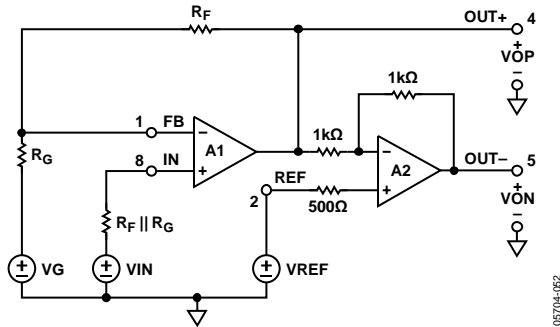

Figure 47. Basic Connections (Power Supplies Not Shown)
The ADA4941-1 is a low power, single-ended input, differential output amplifier optimized for driving high resolution ADCs. Figure 47 illustrates how the ADA4941-1 is typically connected. The amplifier is composed of an uncommitted amplifier, A1, driving a precision inverter, A2. The negative input of A1 is brought out to Pin 1 (FB), allowing for user-programmable gain. The inverting op amp, A2, provides accurate inversion of the output of A1, VOP, producing the output signal VON.
In Figure 47, R_G and R_F form the external gain-setting network. V_G and V_{REF} are externally applied voltages. V_{O, cm} is defined as the output common-mode voltage and V_{O, dm} is defined as the differential-mode output voltage. The following equations can be derived from Figure 47: